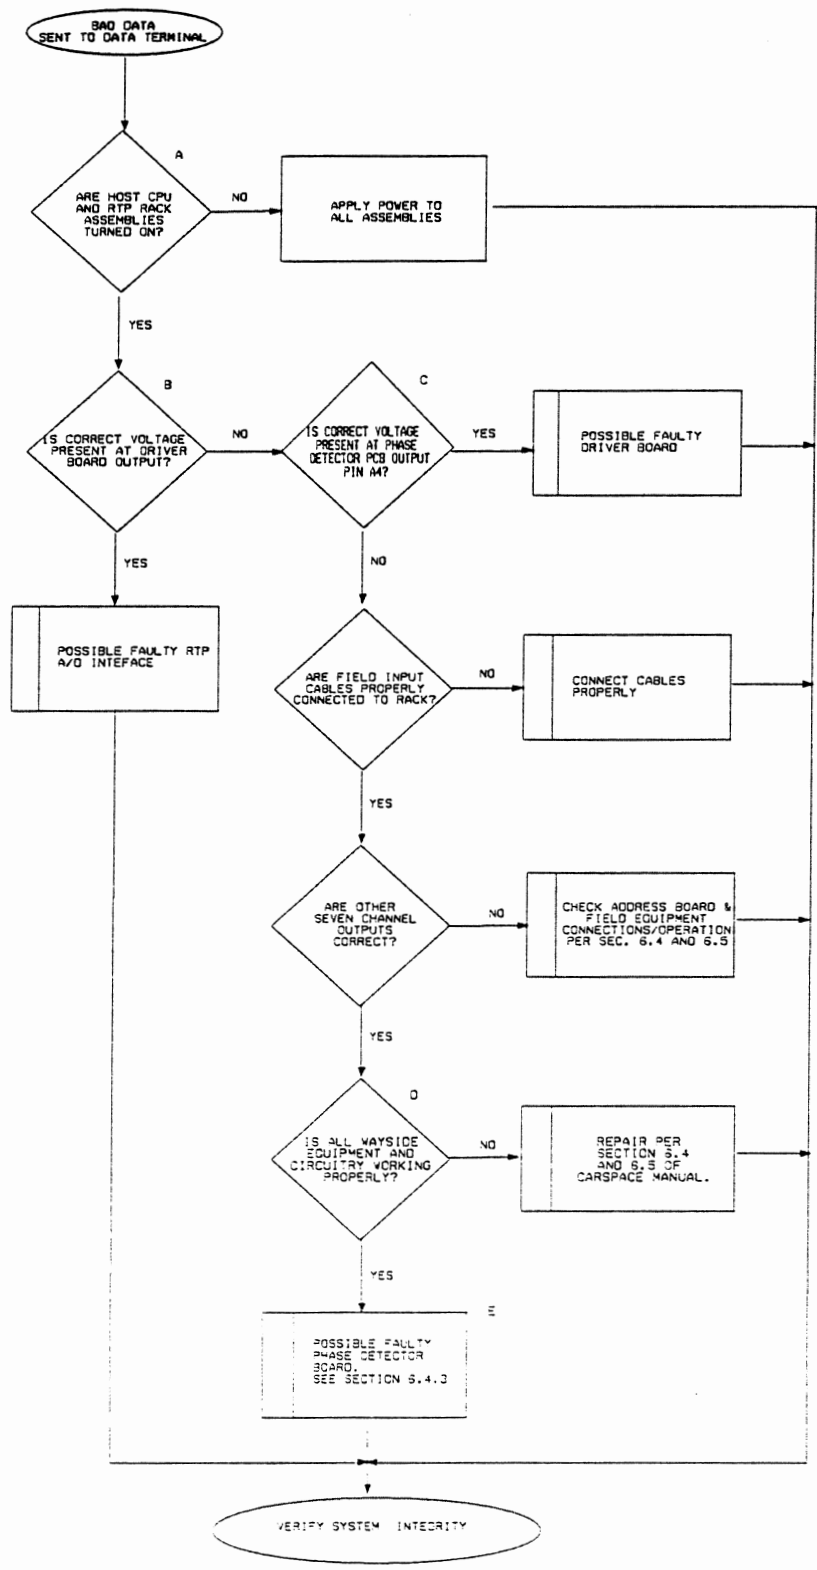

Figure 6-1: Bad Data Sent To Terminal Display
- (1) Bad Data being sent to Terminal Display (Refer to Figure 6-1)